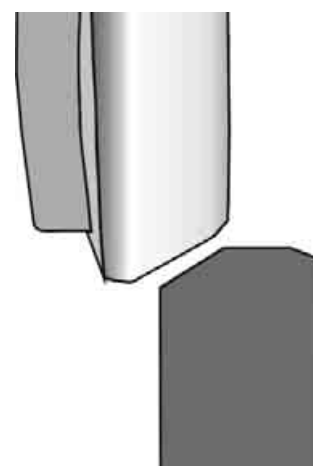

Fig. 13
5. Lubricate the screws (17) with paste type molybdenumdisulphide.
**NOTE!** The bevel at the inside of the seat (see Fig. 13) should be placed downwards to the disc.
7. Fit the cover plate (10).
8. Tighten the screws (17) firmly in rotating order.